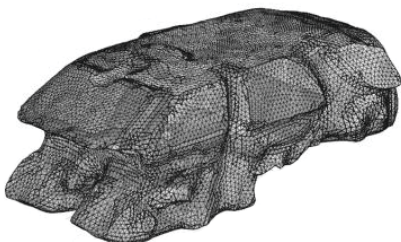

Figure 4. Surface mesh of the car cabin.
Beyond the design stage, modeling and simulation have been used to predict the quantitative performance of metamaterial shells like this, including a detailed analysis of the scattering from a 2D cloaking shell implementation (Figure 4). Not only does this show how much the scattered field is reduced by the shell, but COMSOL accurately predicts the amount of scattering reduction given design tradeoffs made in the fabrication of the acoustic metamaterial.
For frequencies below 1 kHz, the loudspeaker was represented as a rigid flat piston tied to a simplified lumped parameter model (LPM) taking into account the voltage at the voice coil terminals and the stiffness of the suspension and speaker membrane surface. The geometry was generated from a manual 3D scan (see Figure 3). Using a preprocessing algorithm implemented in MATLAB® software and an add-on product to COMSOL® called LiveLink™ for MATLAB® that creates a bidirectional link between the two programs, the team converted the point cloud created by the scan into a surface mesh of the car cabin (see Figure 4) and created an optimized mesh for studying acoustic pressure waves.
**Figure 4.** Cross-sectional view of the heated waveguide arm of a thermo-optic Mach Zehnder switch without (top) and with (bottom) thermal undercut. The thermal undercut isolates the waveguide and heater reducing wasteful heat transfer to the surrounding material.
The heated waveguide arm of the thermo-optic switch in Figure 3 is a suspended structure, where the surrounding cladding material is etched away, forming a thermal undercut. A cross-sectional view of the waveguide with and without thermal undercut is shown in Figure 4. The thermal undercut